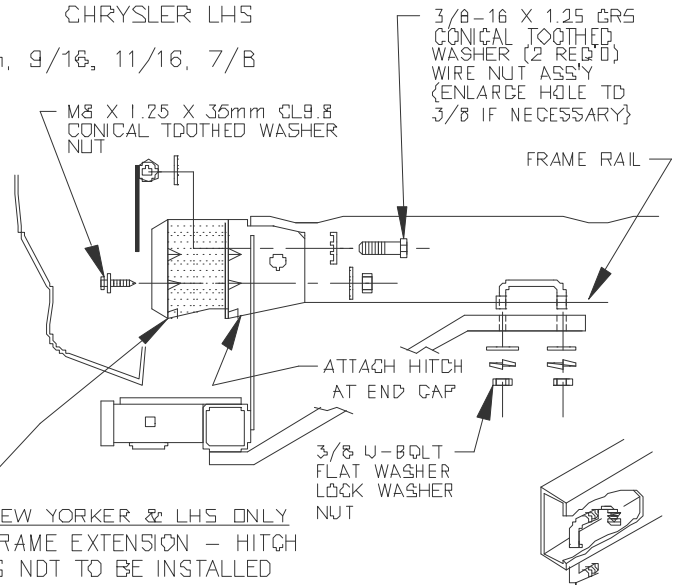

FIGURE 2. PASSENGER'S SIDE
9. REMOVE THE HITCH AND DRILL TWO 1/2" DIAMETER HOLES THRU THE PASSENGER SIDE FRAME RAIL. INSTALL THE 3/8 U-BOLT IN THE PREVIOUSLY DRILLED HOLES. SEE FIG 2.